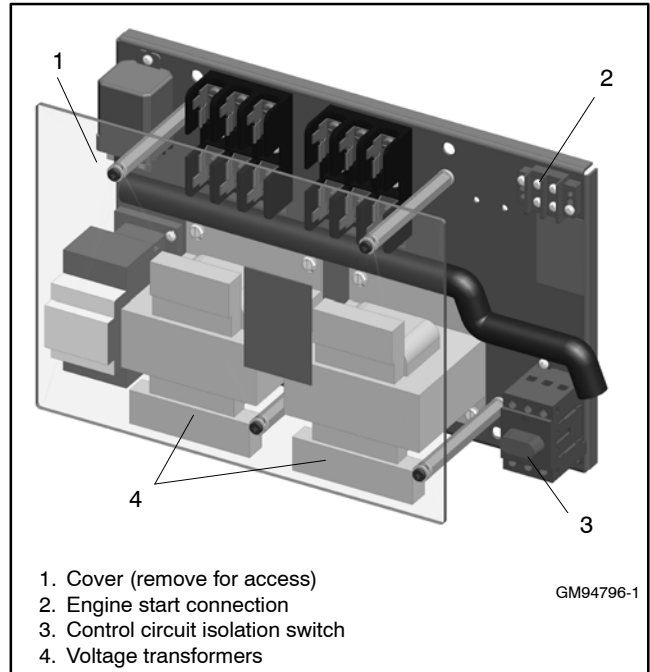
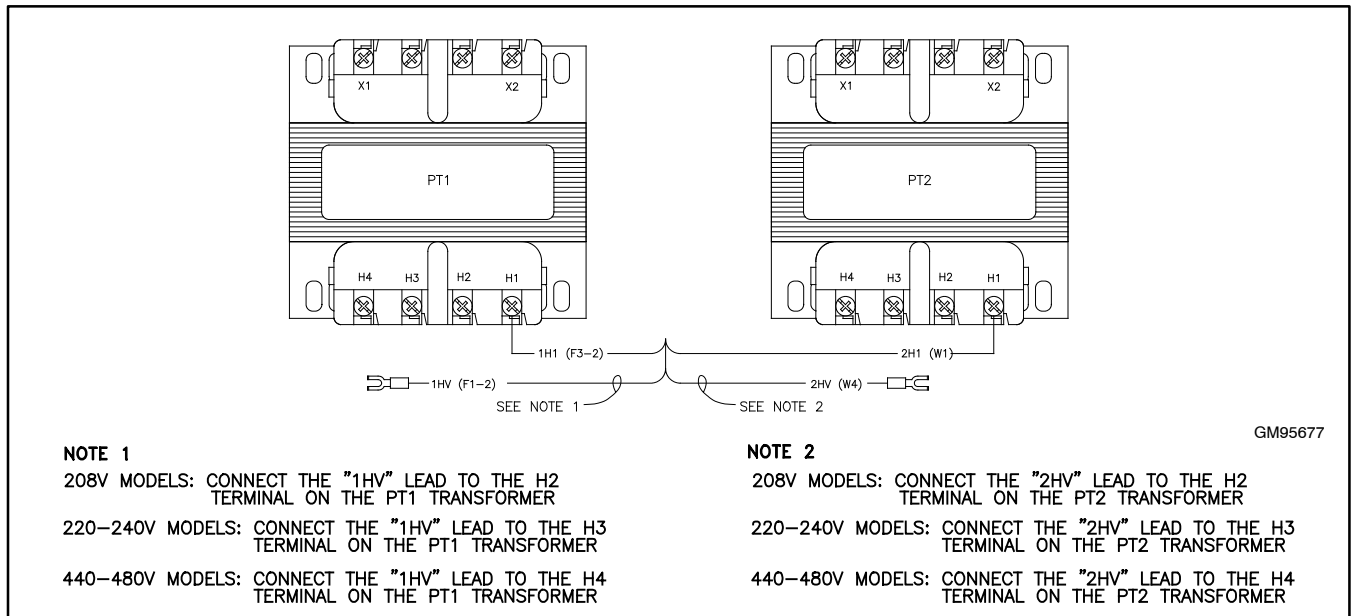

Figure 2-3 Transformer Assembly, Typical (MCCB Service Disconnect to OFF unit shown)
Figure 2-4 Typical Voltage Tap Connections (Refer to the wiring diagram provided with the ATS.)
The transfer switch has multi-tap voltage capability at the voltage transformers. See Figure 2-3 for a typical transformer assembly. Figure 2-4 shows typical connections. Refer to the wiring diagram provided with the transfer switch for complete connection information for your model.
- After the voltage taps have been set to correct operating voltage, but before applying power to the transfer switch, connect the contactor harness to the controller through the control circuit isolation switch on the transformer assembly. See Figure 2-3 and Section 2.8.
Verify that the contactor harness is connected at the controller base through the controller circuit isolation switch on the transformer assembly. See Figure 2-3.